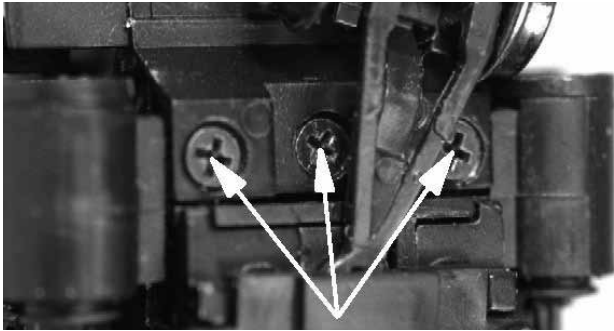

Figure 3
- Turning the locomotive upside down, remove the three screws below the cylinder casting as shown in Figure 3. The center screw is longer than the outside two screws and serves to secure the front of the chassis to the boiler. When removing this center screw, be careful not to place any undue outward pressure on the chassis that would cause it to separate from the boiler.